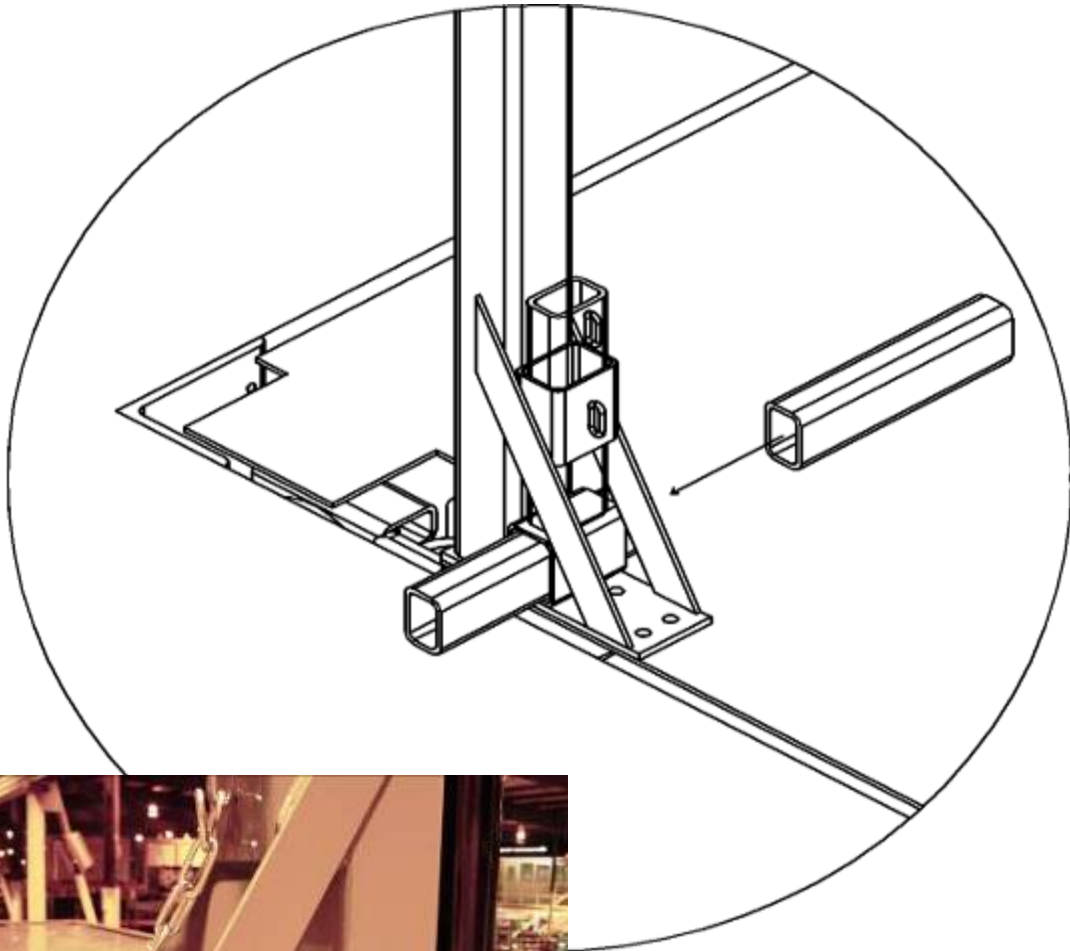

Figure 11 Maintenance Devices – Typical (4) Corners
1. Send the lower deck to the fully raised position, then remove all four (4) maintenance devices from their stored location and place them in the fully engaged position (see **Fig. 11**).
3. Lower the empty deck until ALL four (4) maintenance devices make contact with the surrounding floor.
5. As an added level of protection when using the locking devices at floor level, it is recommended that a secondary set of stops be placed underneath the lower deck such as four (4) 4" x 4" treated wood posts that have been cut to the appropriate length to place one end on the floor and wedge the other end between each corner guide angle and the lift deck.